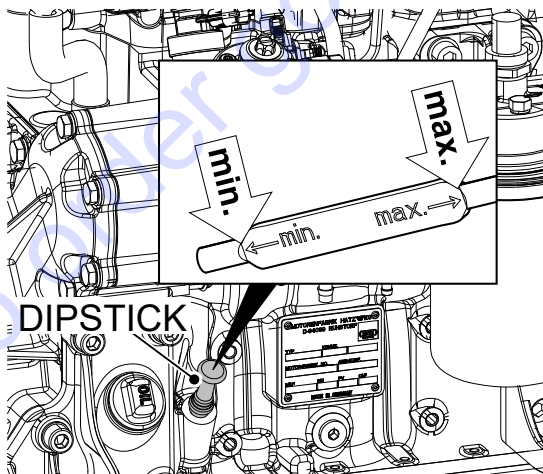

Figure 11. Engine Oil Dipstick
4. Pull out the dipstick and check the oil level (Figure 11).